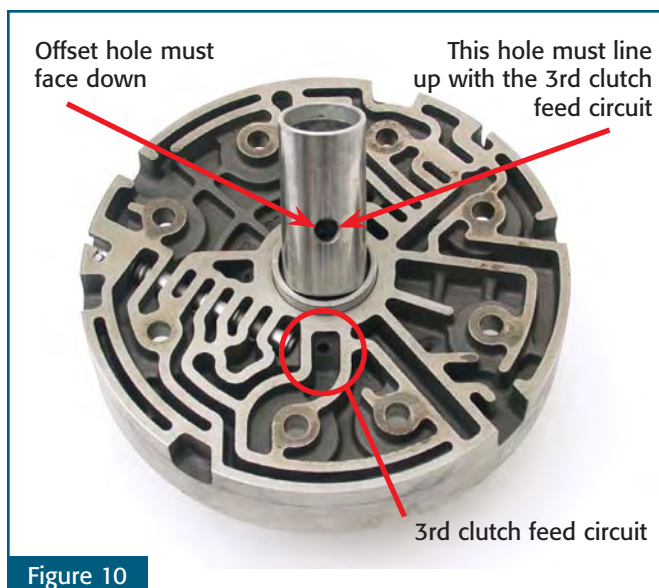

Figure 10
2. The 3rd clutch feed hole in the bushing must line up with the 3rd clutch feed circuit in the center support (figure 10). Improper alignment will cause a bindup in 2nd gear because lube oil will apply the 3rd clutch.